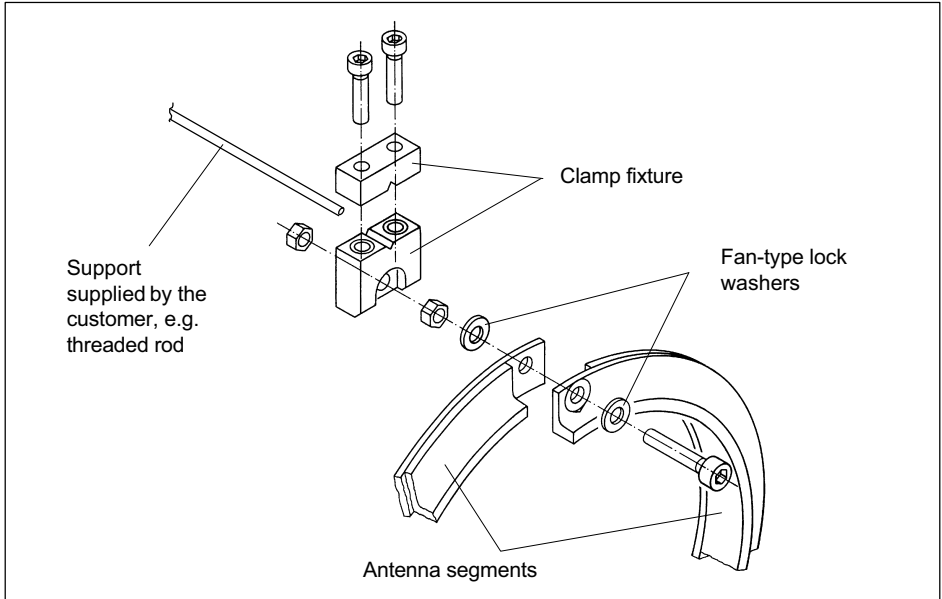

Fig. 6.7 Installing the clamp fixture
2. Fasten the clamp fixture with the enclosed screw fitting as shown in *Fig. 6.7*. It is essential to use the new fan-type locking washers!